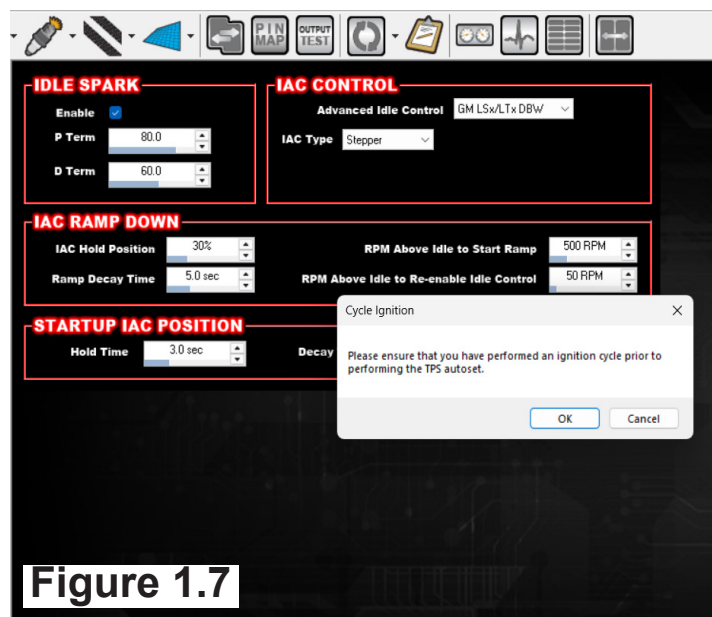

Figure 1.7
- 3.) Select TPS AutoSet from the Sync to ECU drop-down menu. If prompted, cycle the ignition key to the OFF position, then back to the ON position to begin the procedure. (Figure 1.7)